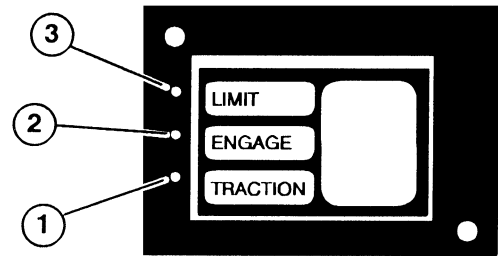

Figure 12
**Note:** Lights (LED's) on the controller (Fig. 12) indicate when the following inputs are made to the controller: